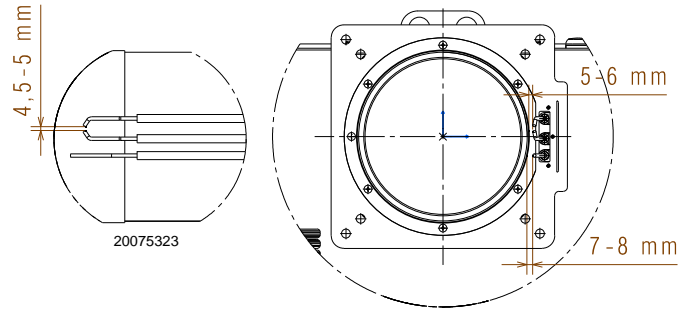

Fig. 14
Make sure the probe and electrodes are correctly positioned as in Fig. 14.
- Put back the cover 10) and secure it with the screws 11); connect the high voltage cables to the transformer 23), and the ionisation probe lead to the appropriate cable emerging from the control box. Before fixing the burner to the boiler, make sure the probe and electrodes are positioned correctly as in Fig. 14.